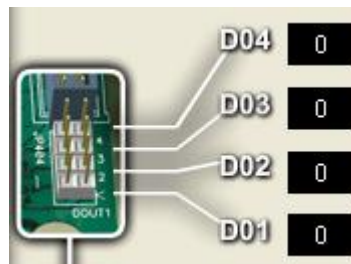

Figure 33. Digital Output Set Points
- Click a digital output set point value labeled **DO1** through **DO4**, as shown in **Figure 33**. This set point appears to the right of the EV-Actuator Point. Each click toggles the current value, so that if the current value is 1, clicking it changes the value to 0.